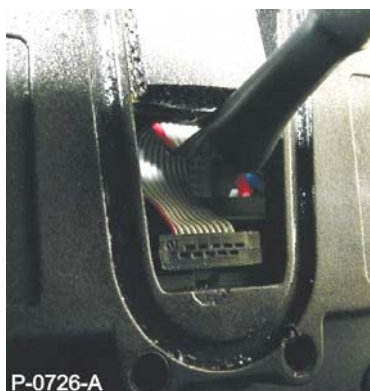

Figure 39: Excess Wiring Loom Cable Folded Correctly
- Fold excess main wiring loom cable into the electronics pack above the plug. (Figure 39)